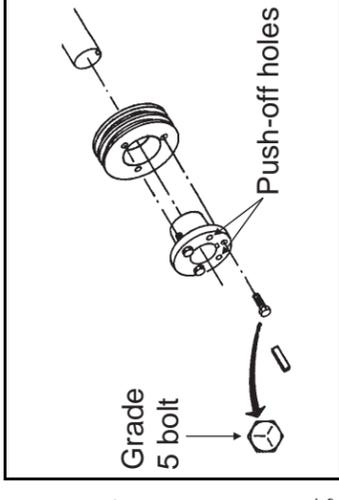

FIGURE 4 (MSSM0215AE)
- Remove all bushing screws. Thread two of these screws into bushing push-off holes (FIGURE 4); alternately tighten bolts until bushing and pulley separate and can be removed from shaft. Carefully remove pulleys, as bushings may break off within the pulley hub. Remove the pulley by repeatedly tightening the two push-off bolts no more than 1/10 turn, then striking the rear face of the pulley with drift pin in three opposite places.
- Install belts, remove all slack, and align pulleys (see “Aligning Pulleys”). Corresponding pulleys must be aligned within 1/64 - 1/8 inch (0.4 - 3.2) per foot (305) between pulley centerlines. Adjust belt tension (see the correct belt tension specifications table).